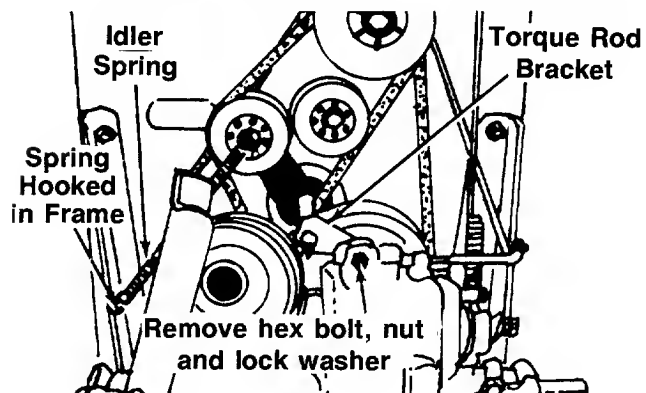

FIGURE 31.
5. Unhook the idler spring from the rider frame. See figure 31.
6. Remove the hex bolt, nut and lock washer at the torque rod bracket and transaxle. See figure 31.